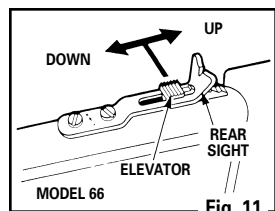

Fig. 11
- Model 66: The rear sight may be adjusted to shoot higher or lower (elevation). Move the rear sight elevator back to make the BB or pellet hit higher on the target. Move the rear sight elevator forward to make the BB or pellet hit lower on the target. When moving the elevator, slightly lift the rear sight and reset it on the desired notch in the elevator (Fig. 11).